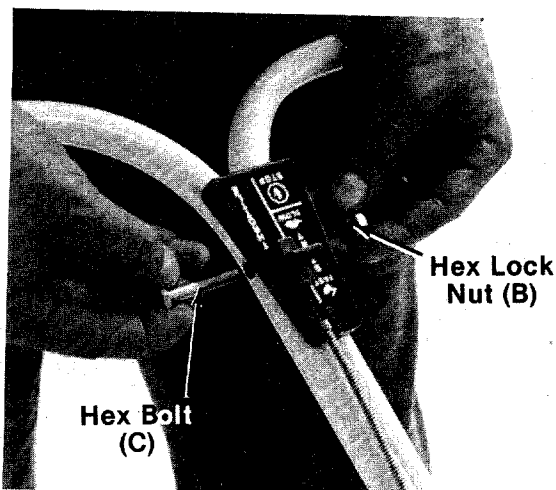

FIGURE 6.
9. Place the tab on throttle control between the upper handle halves at top hole. Secure with hex bolt (C) and hex lock nut (B) provided in hardware pack. See figure 6.